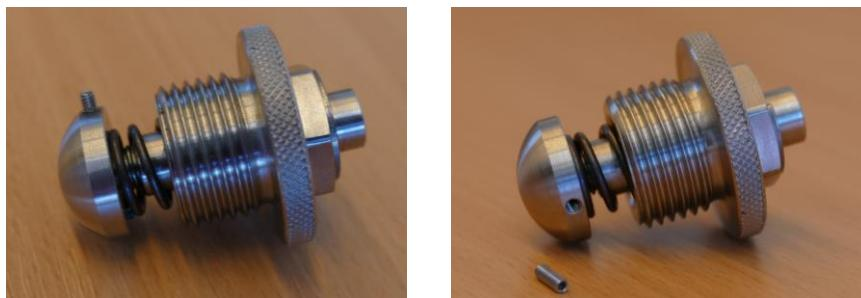

Figure 3-7: Tension adjuster with grub screw
4. Insert the grub screw into the side of the tension adjuster ball-head (see Figure 3-7).